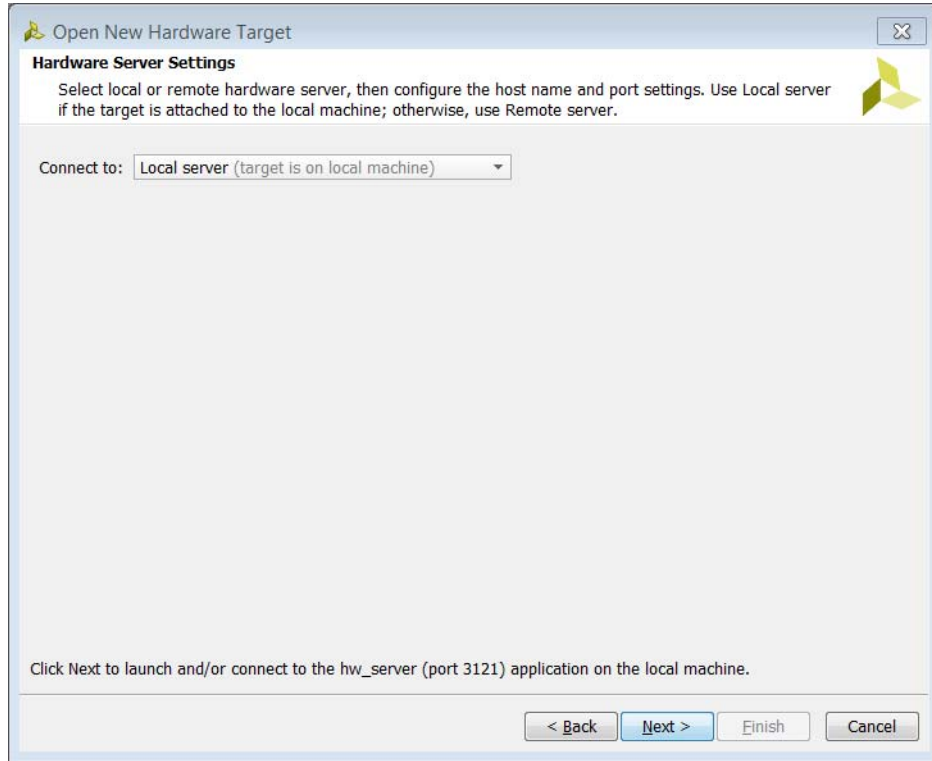

Figure 2-12: Using a Local Hardware Server
- Local server: Use this setting if your hardware target is connected to the same machine on which you are running the Vivado IDE (See Figure 2-12). The Vivado software automatically starts the Vivado hardware server (`hw_server`) application on the local machine.